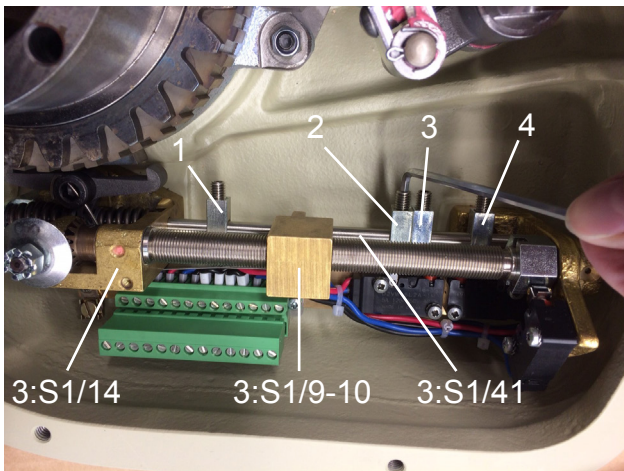

Figure 7
4. Make sure that the slide block stands close to the bracket (3:S1/14), so that there is space enough on bridge spindle for valve to open, figure 7.